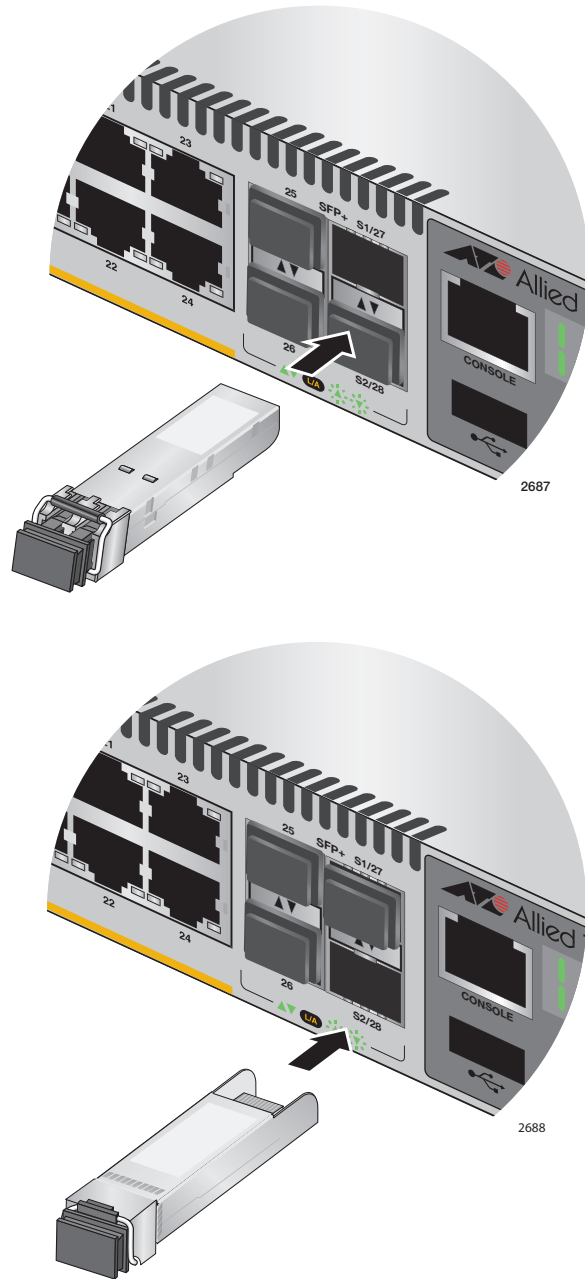

Figure 61. Installing the AT-StackOP/0.3 or AT-StackOP/9.0 Transceiver
- Slide the transceiver into the slot until it clicks into place, as shown in Figure 61 on page 100.